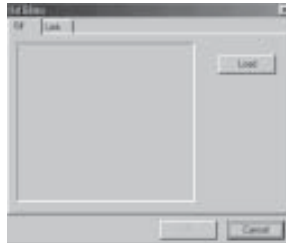

Fig. 4-28 Insert Animated Picture 1
1. Click the button  and move the mouse to the drawing interface, the dialogue block as in Fig. 4-28 will be displayed.
1. Click the button  and move the mouse to the drawing interface, then the dialogue frame as in Fig. 4-28 will be shown in the system as below.